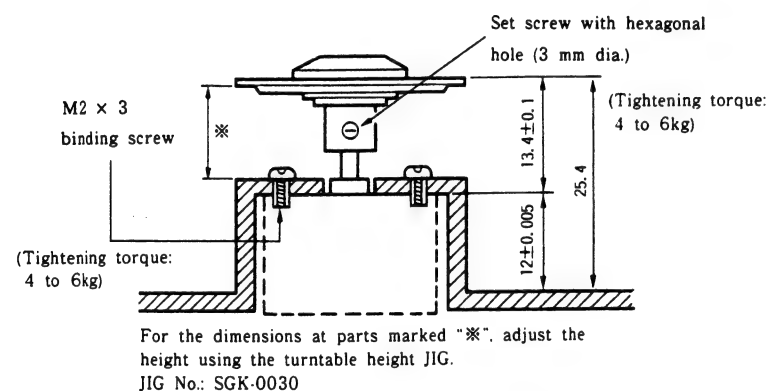

Fig. 8
- 2) When fitting on the servicing turntable (metal), make a height adjustment. (Fig. 8)